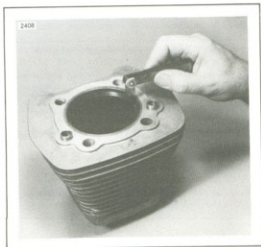

Figure 3-20. Checking Ring Gap
1. See Figure 3-20. Check the end gap on both oil rails and the compression rings. Use the top of the piston to square the ring in the bore.